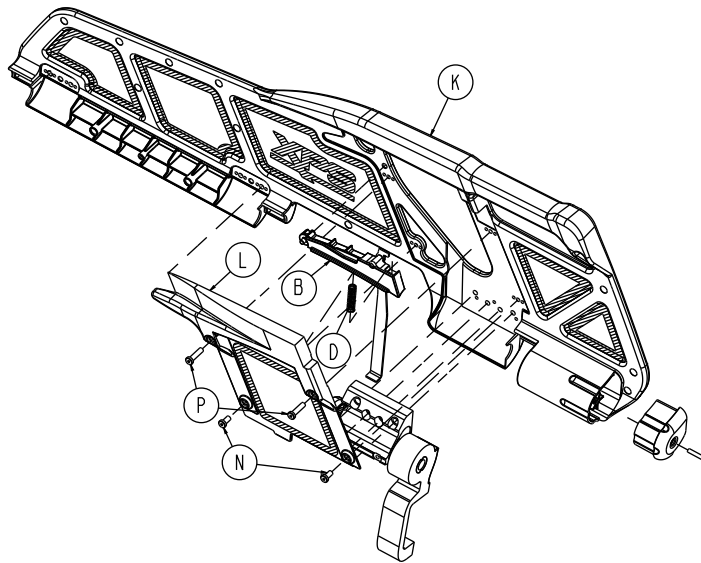

Figure 18 – Release/spring handle assembly components (XPS)
5. Using a 3/32" hex wrench, remove the four socket head cap screws (N and P) that secure the release cover (L) to the overmold assembly (K) (Figure 18). Remove and save the release cover. Save the screws.
6. Using a small slotted screwdriver, pry the handle spring (D) up. Remove and save the spring.
7. Grasp the handle assembly (B) and lift the handle spring side to remove from the cover. Discard the handle assembly.
6. Using a small slotted screwdriver, pry the handle spring (D) up. Remove and discard the spring.